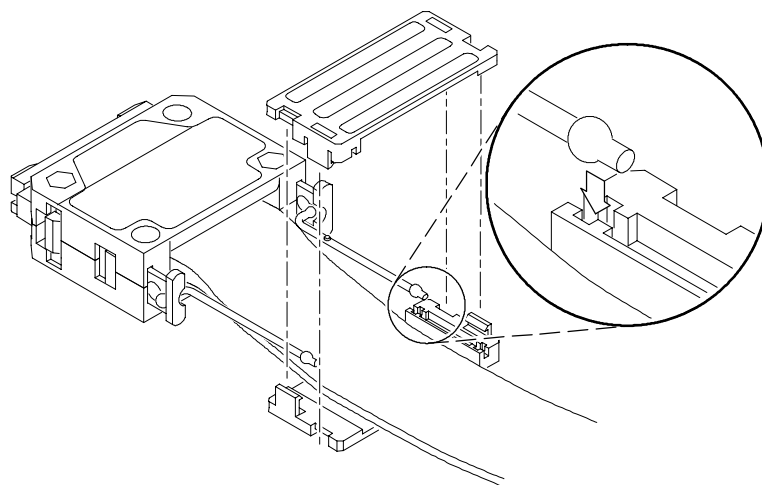

Figure 31: Reconnecting the latch release cords to the latch release grip
3. Place the other end of the latch release cords into the latch release grip and reconnect the latch release grip as shown in Figure 31.